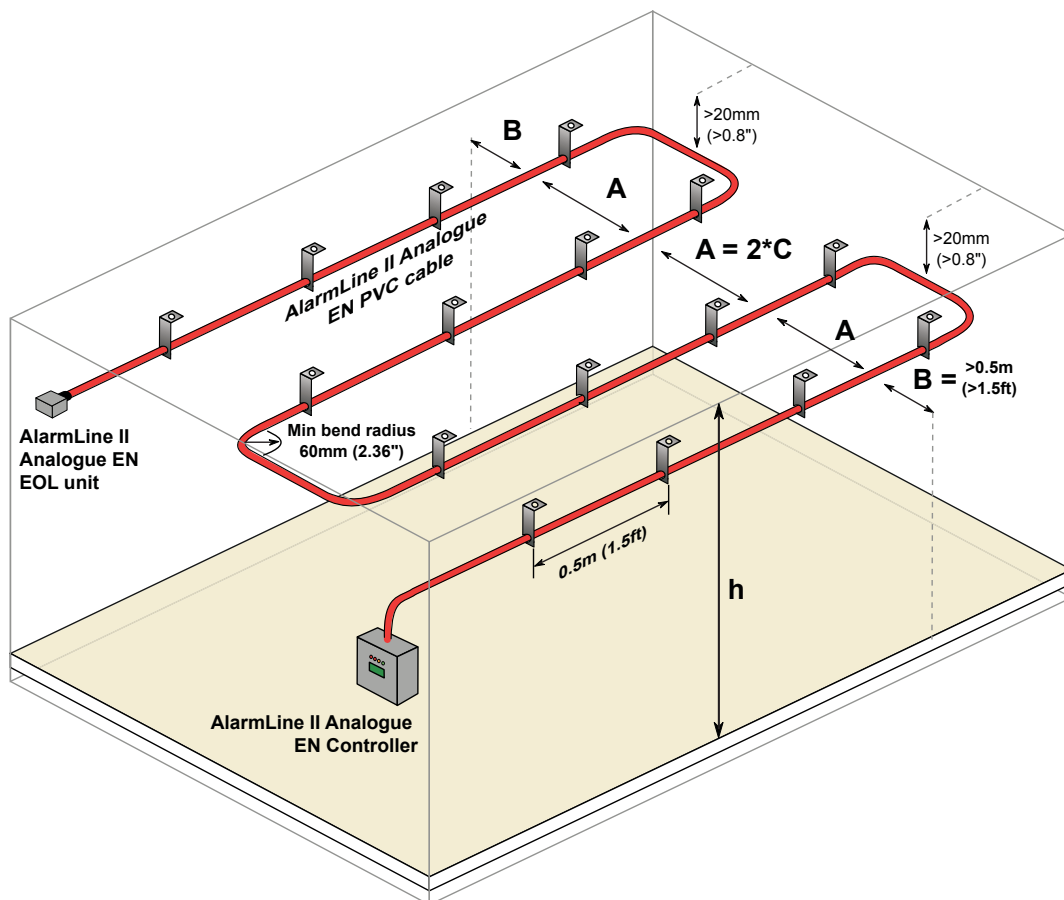

Figure 8: Area protection with the AlarmLine II Analogue EN LHD System
-  In any case, the sensor cable should not be mounted closer than 0.5m to any walls, equipment or stored goods (shown as B in Figure 8).
Therefore the distance between two parallel runs of sensor cable (shown as A in Figure 8 below) must not be greater than the distance shown in Table 4. For Class A11, the maximum ceiling height (h) is 9m (see DIN VDE 0833-2 section 6.1.5.3).